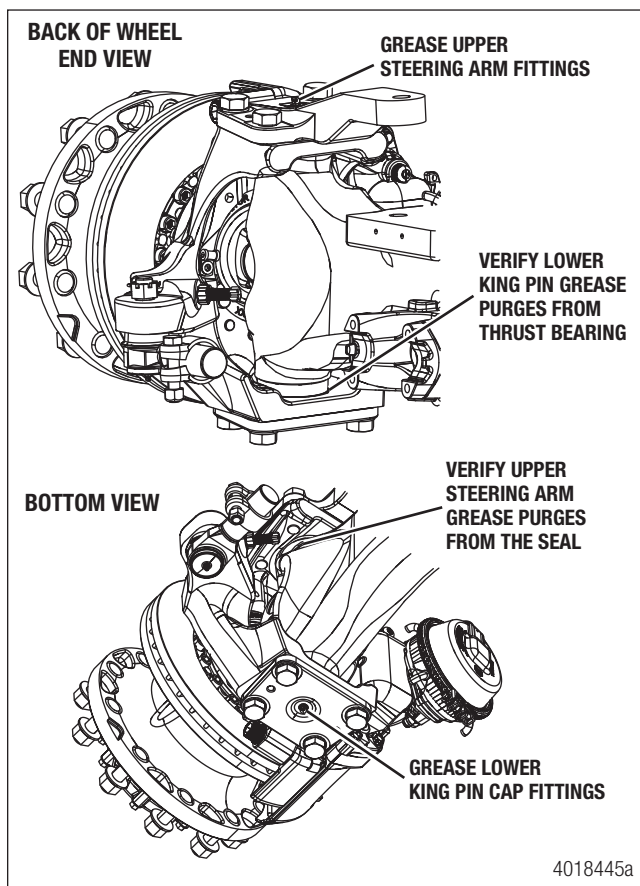

Figure 16.6
- Apply the specified grease through the knuckle grease fittings located on the upper steering arms and the lower king pin caps until new grease purges from all the seals and thrust bearings. Figure 16.6.